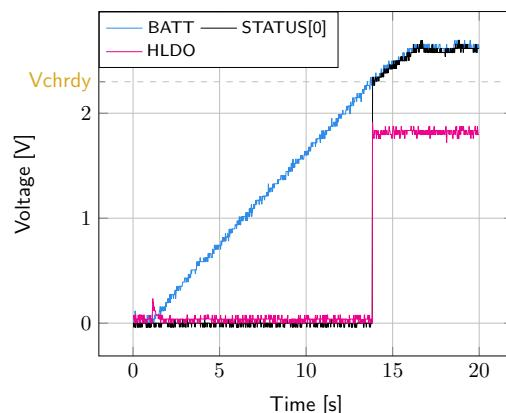

Figure 2: **STATUS[0]** and **HLDO** evolution with **BATT**
- **BATT**: Voltage rises as the power provided by the source is transferred to the storage element (see Figure 2).
- **HLDO/LLDO**: Regulated when voltage on **BATT** first rises above **V_{chrdy}** (see Figure 2).
- **STATUS[0]**: Asserted when the LDOs are ready to be enabled (refer to Section 7.2 "Normal mode" of the AEM40940 datasheet) (see Figure 2).